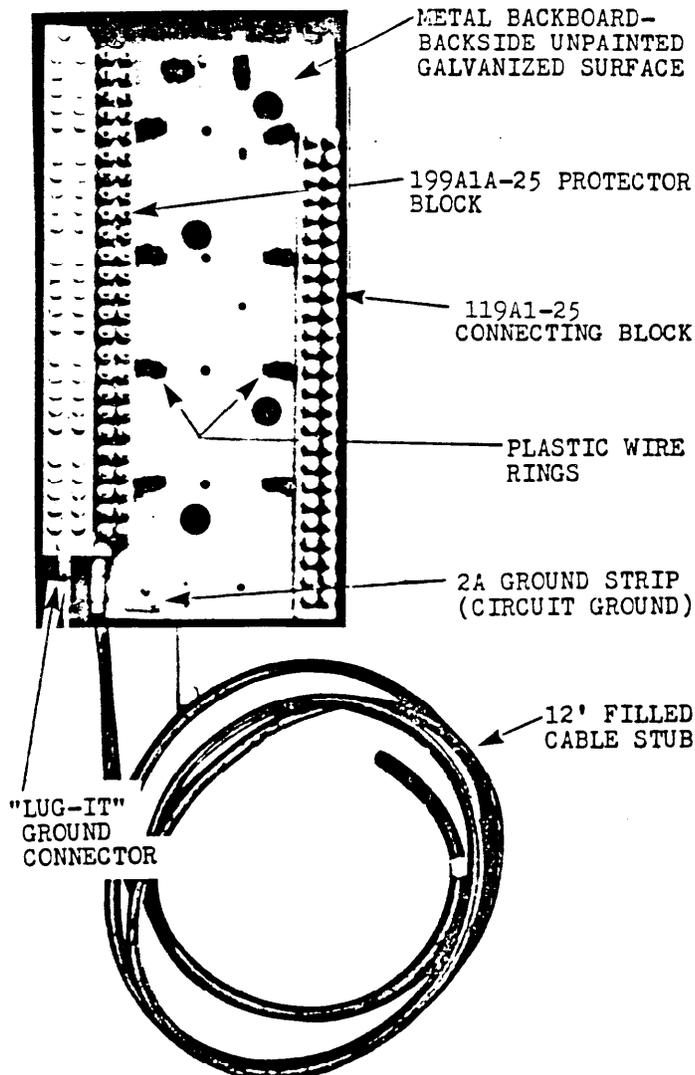

Fig. 2 - 199A1A-25-12W PROTECTOR
2.02 The MC-10/48-SW25 is illustrated in Fig. 2.